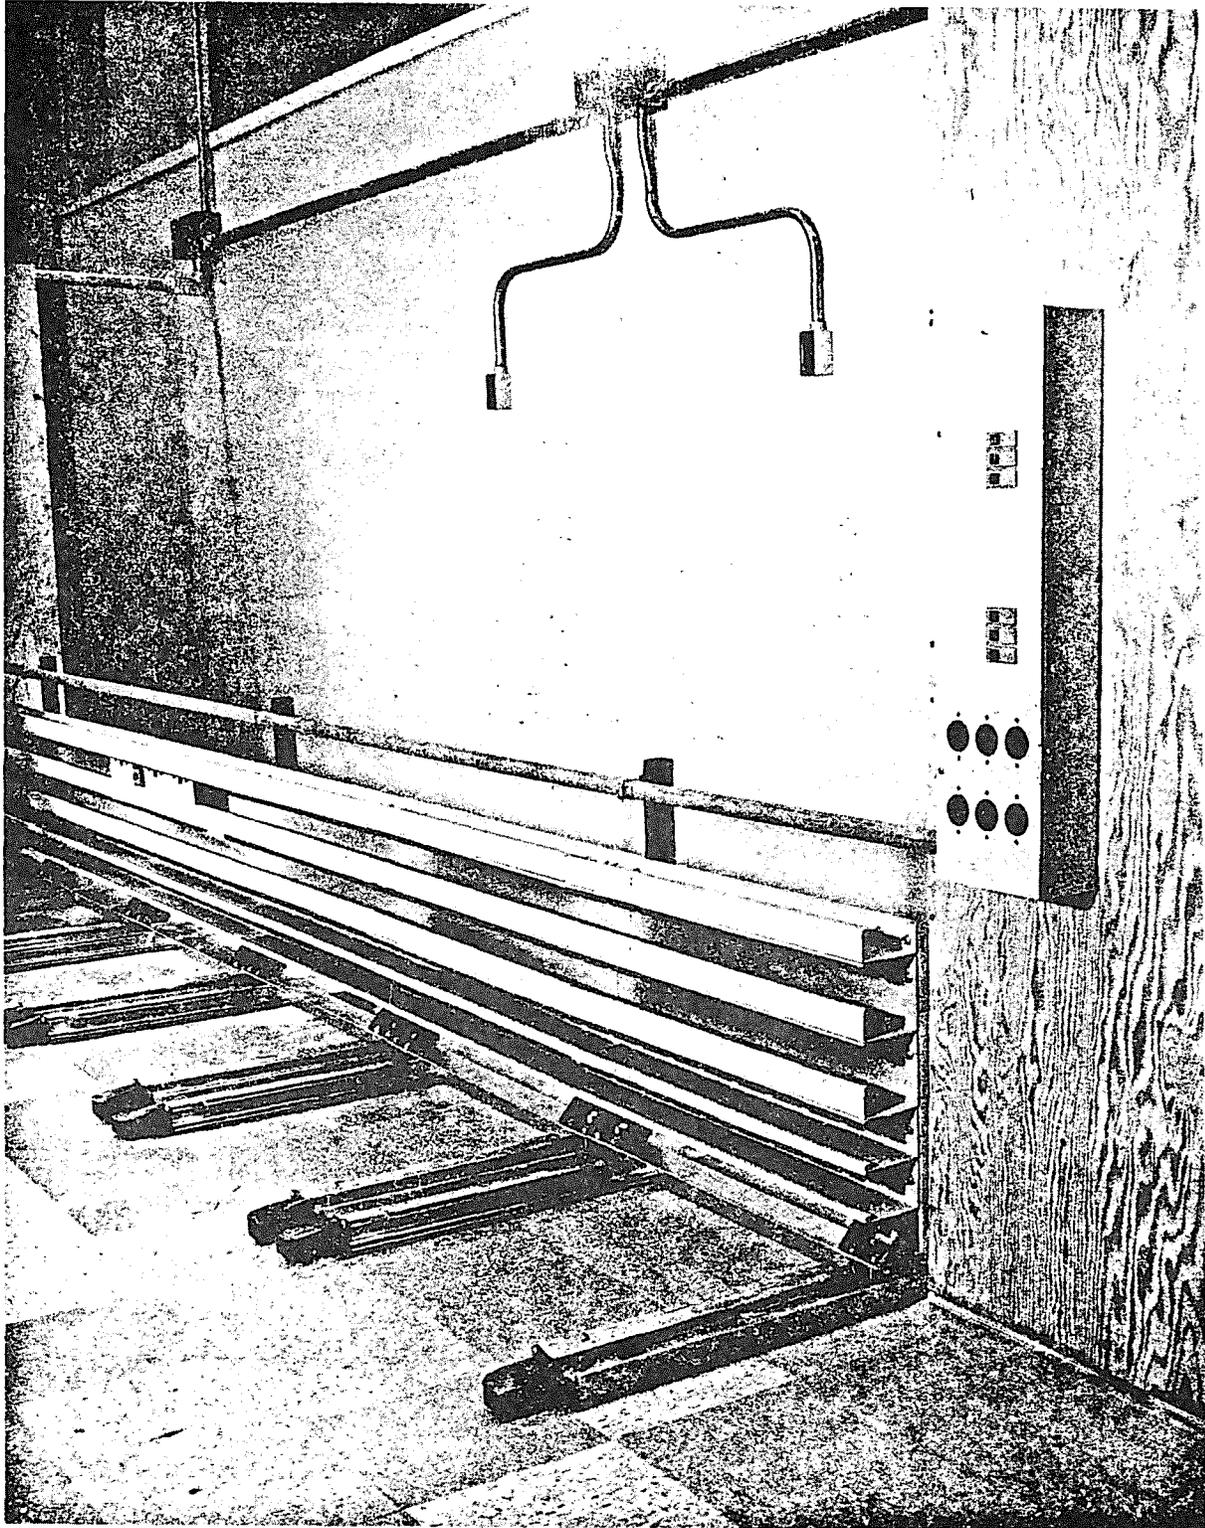

FIGURE 10
- 5.8 Figure 10 shows a typical single-line system assembled and wired for AC power. This system is ready for start of the system interconnection cable operation (next subsection).